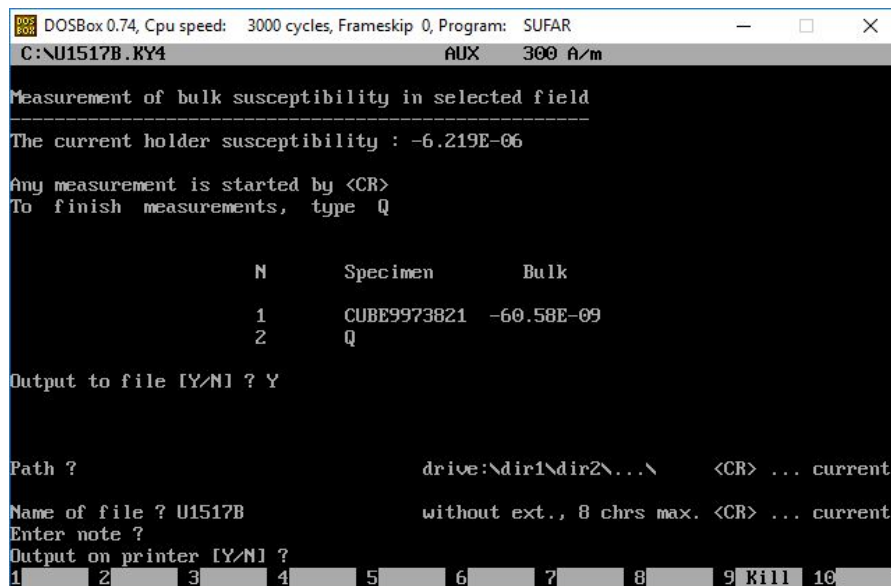

Figure 22 Saving Bulk Susceptibility data
10. When measurements are complete, enter **Q** and press return (**Figure 22**).
11. User will be prompted to Output the data to a file. Enter **Y** and press return to save data (**Figure 22**).
12. User is prompted for the file path. Press return to use default file path (**Figure 22**).
13. At the Name of File? Prompt, enter a file name under 8 characters in length. Recommended file name is Site and Hole (ex. U1517B). Press return (**Figure 22**).